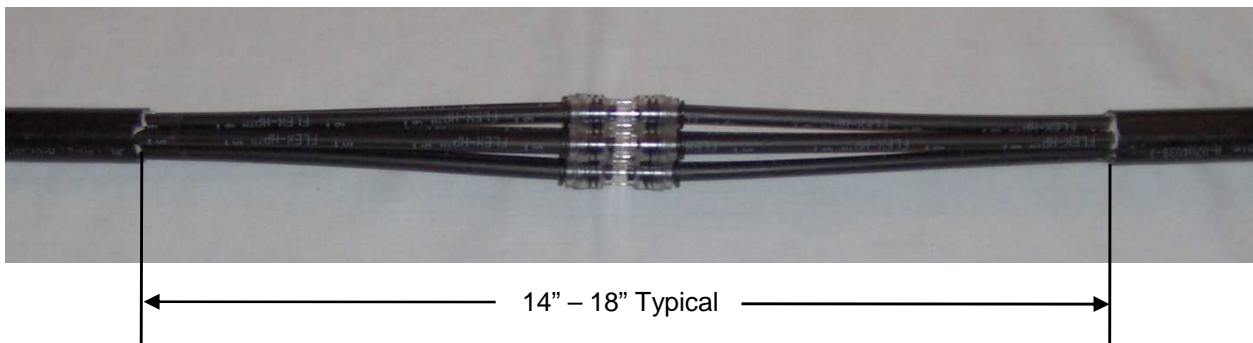
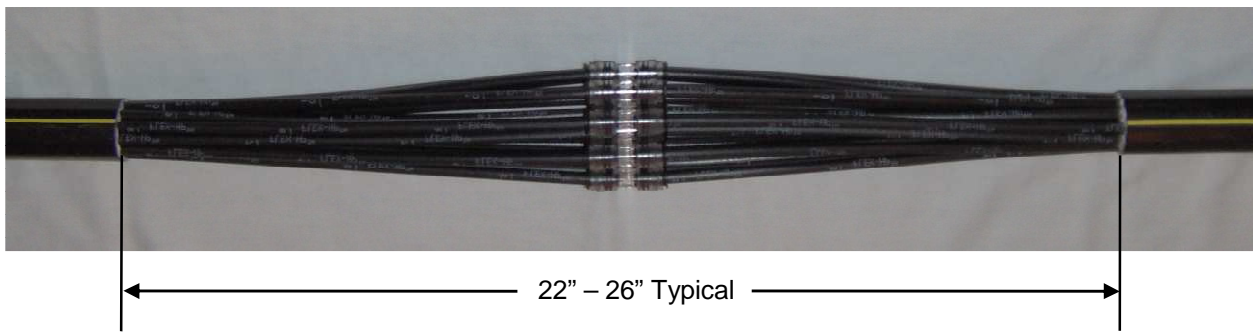

Figure 34
Figure 35
17.6 After all tubes are coupled, make final adjustments to tube and tube cable positions and secure in place to complete the installation. **See Fig. 34 and Fig. 35 for examples.**